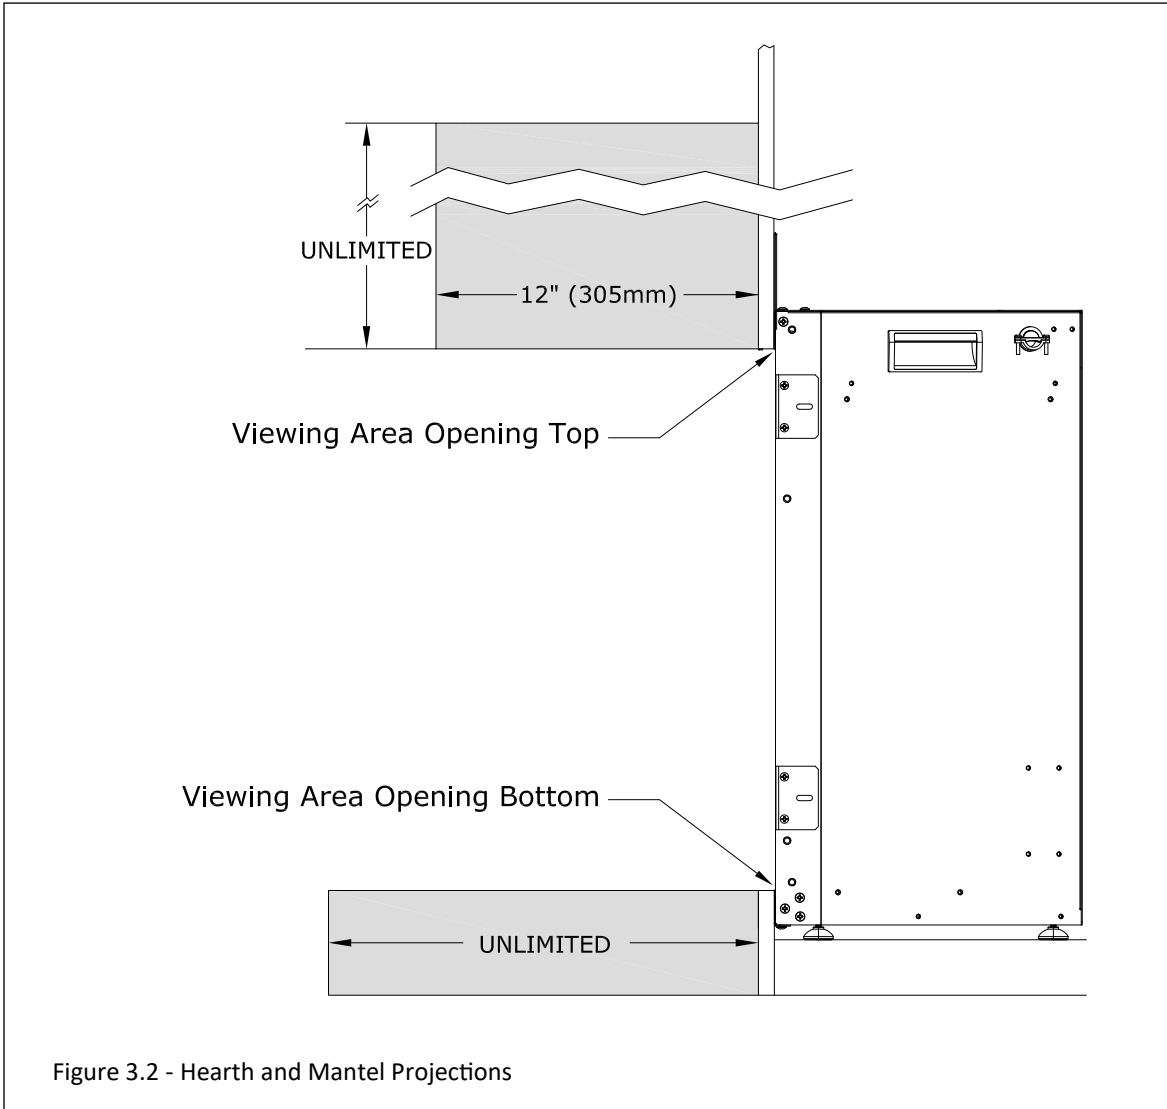

Figure 3.2 - Hearth and Mantel Projections
- **Combustible Mantel Projections:** Mantel projections must fall within the 12" (305mm) combustible Wall Projection shown in Figure 3.2. The combined wall projection, finishing material, and combustible mantel cannot exceed a 12" (305mm) projection.
- **Combustible Hearth Projections:** Hearth projections are unlimited up to the bottom of the viewing area. See Figure 3.2.